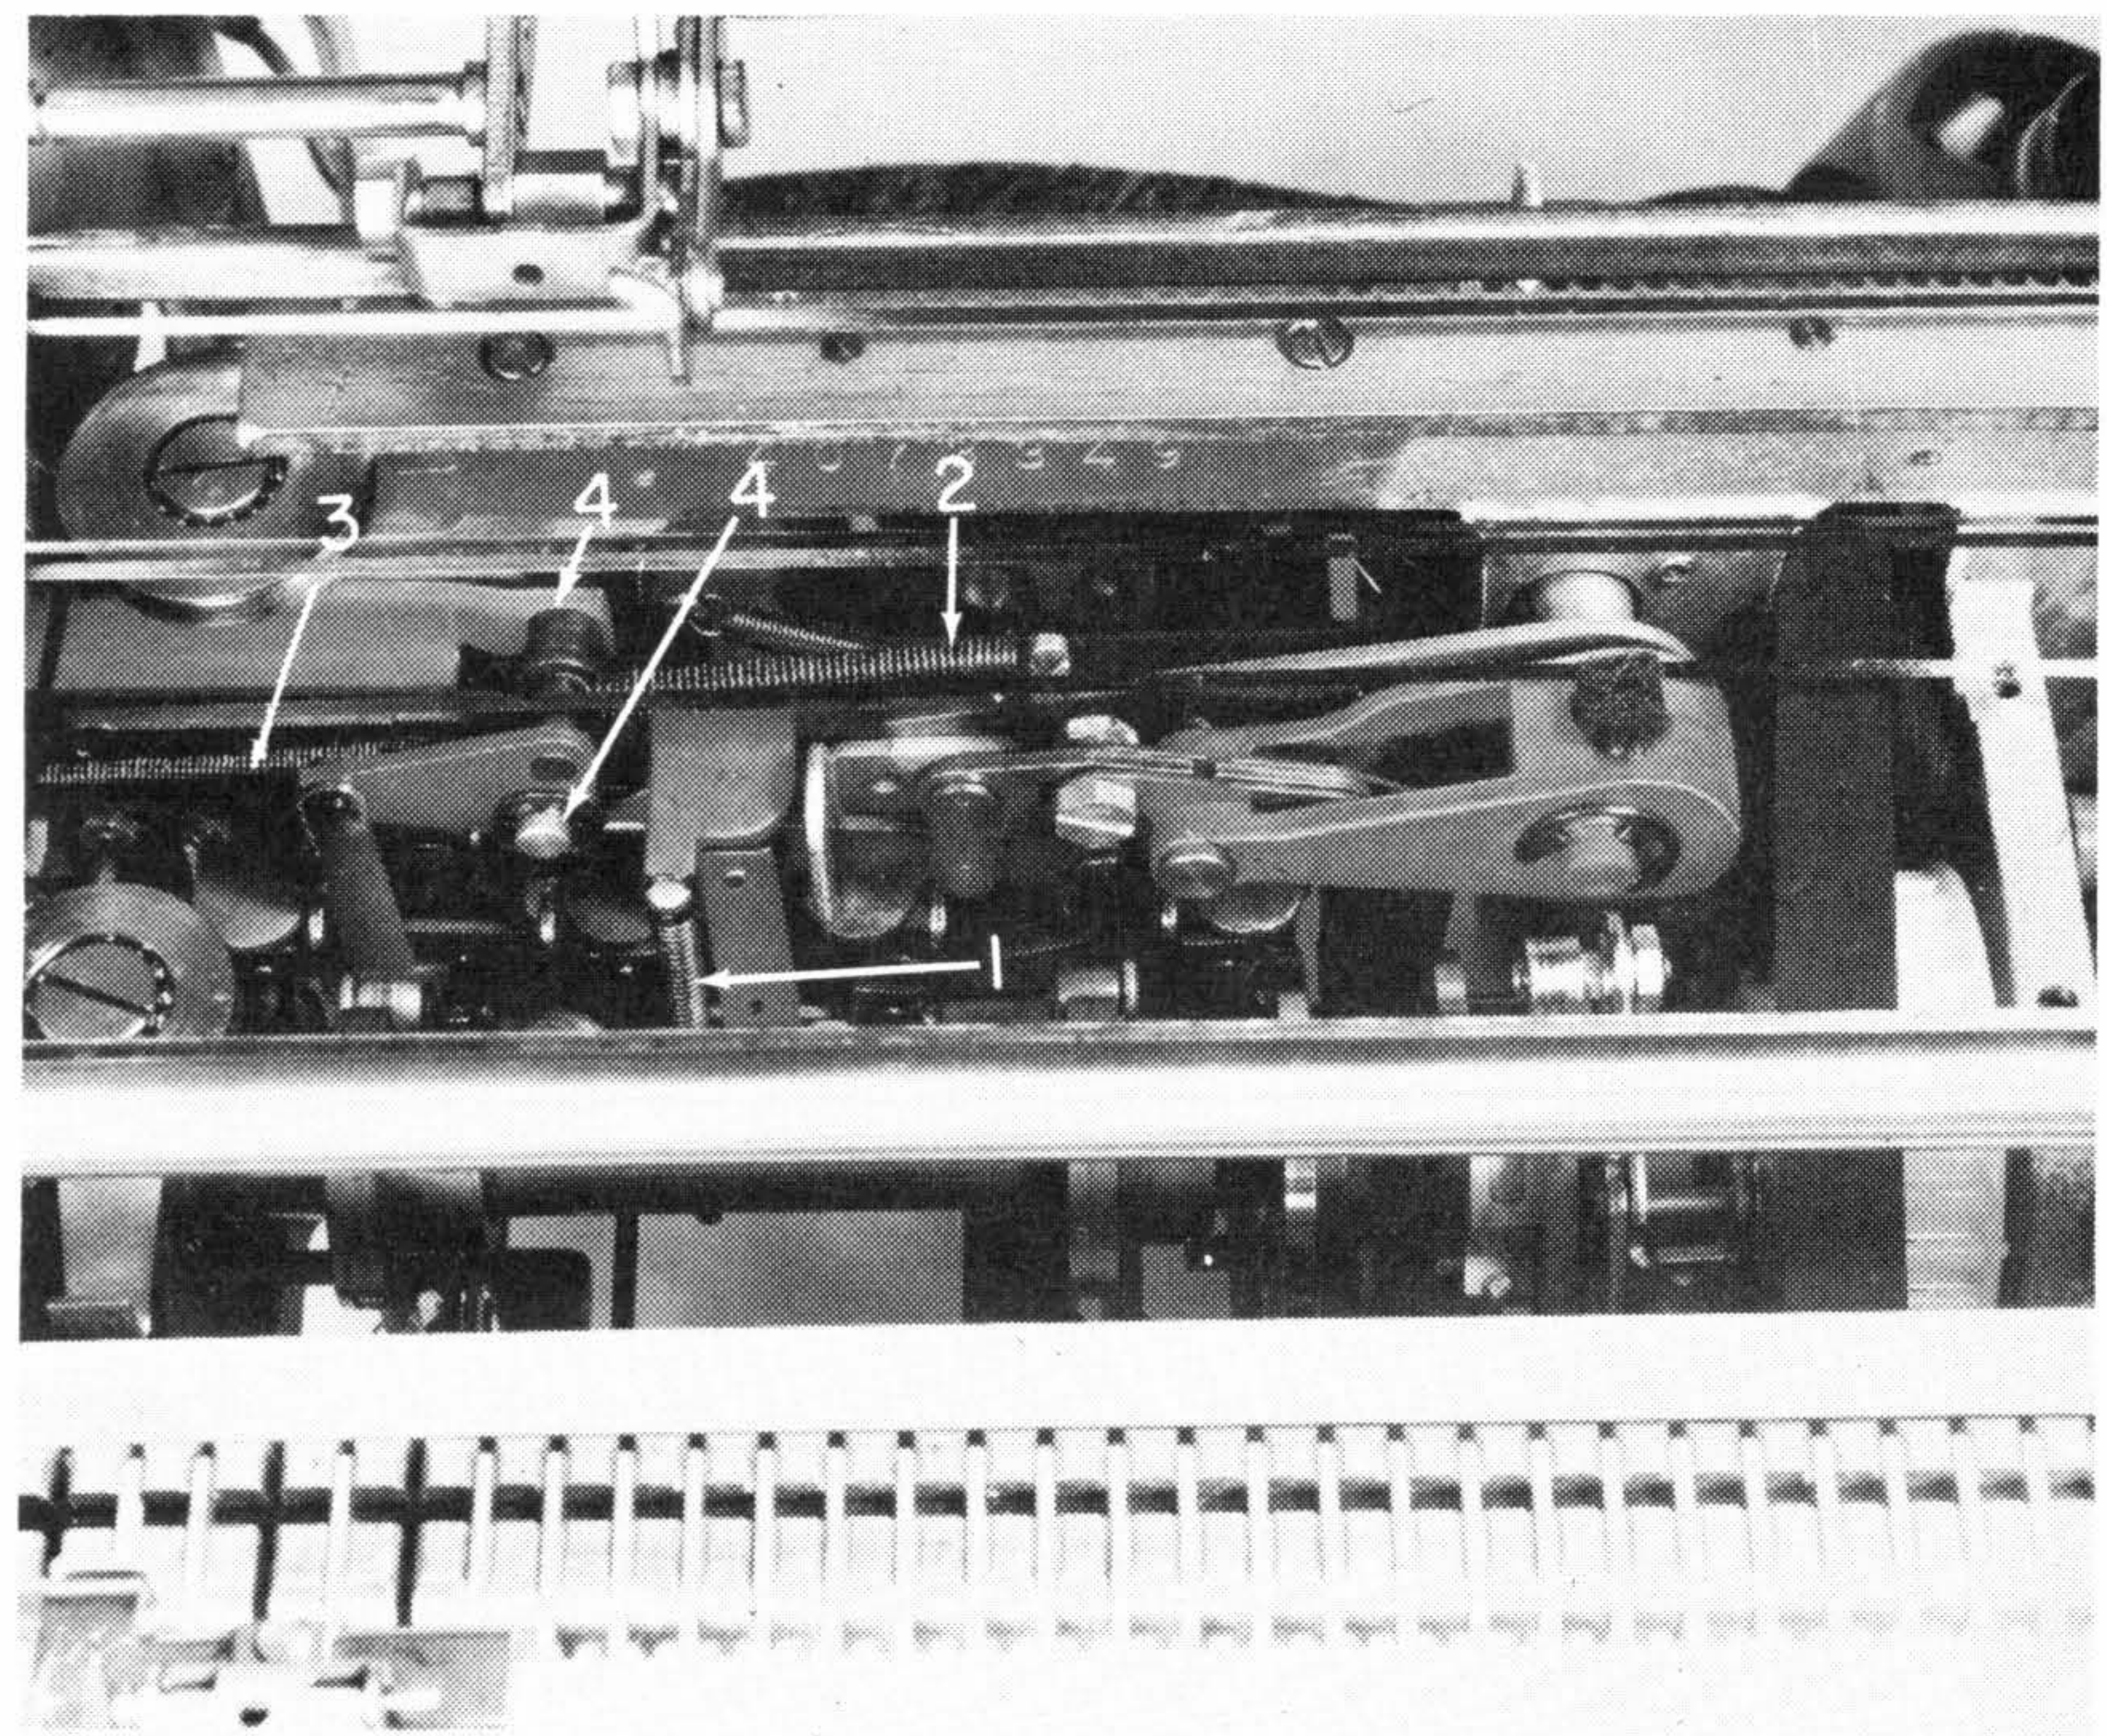

Figure 27. Tilt Selection Differential Removal
8. Remove the positive bail spring (#1, Figure 27).
9. Remove the tilt-differential spring (#2, Figure 27).
10. Remove the rotate-arm spring (#3, Figure 27).
11. Remove the two C-clips and remove the tilt-differential assembly (#4, Figure 27).